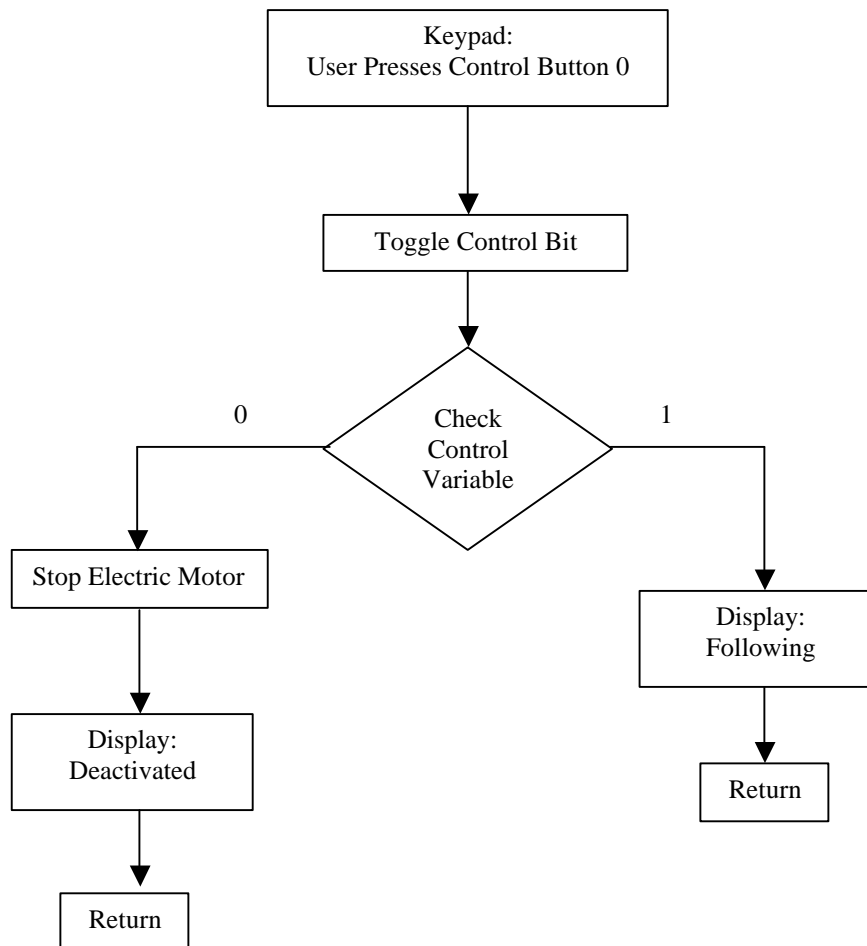

Figure 12.1
User is able to activate or deactivate the Fixed Navigation Mode. When the user presses the Control Button (0) either in the Fixed Navigation Mode or in any of the manual modes this software flowchart is used. There is a variable control bit that is toggled when this software mode is called. When the Robotic Platform is using the Fixed Navigation mode and if the Control Button (0) is pressed, the control bit is toggled to allow the Robotic Platform to be deactivated. This deactivation stops the platform and deactivates the Fixed Navigation Mode. The deactivation of the Robotic Platform occurs when the Control bit = 0 and the software follows left path after the Control Variable is checked in Figure 12.1. This deactivation mode is also used on all of the manual modes of Stop / Reload Mode and Increment / Decrement Mode. At the flowchart there is a return, which means that both software modes return to the Check Control Variable in the Fixed Navigation Mode seen in Figure 19.1 in Appendix A.